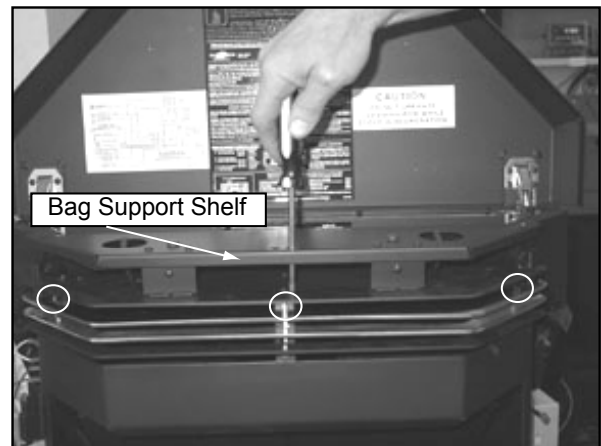

Figure 19.3
4. Use a Phillips screw driver to secure in place. It will be necessary to go through the hole in the bag support shelf to gain access to the screw. **Figure 19.3.**